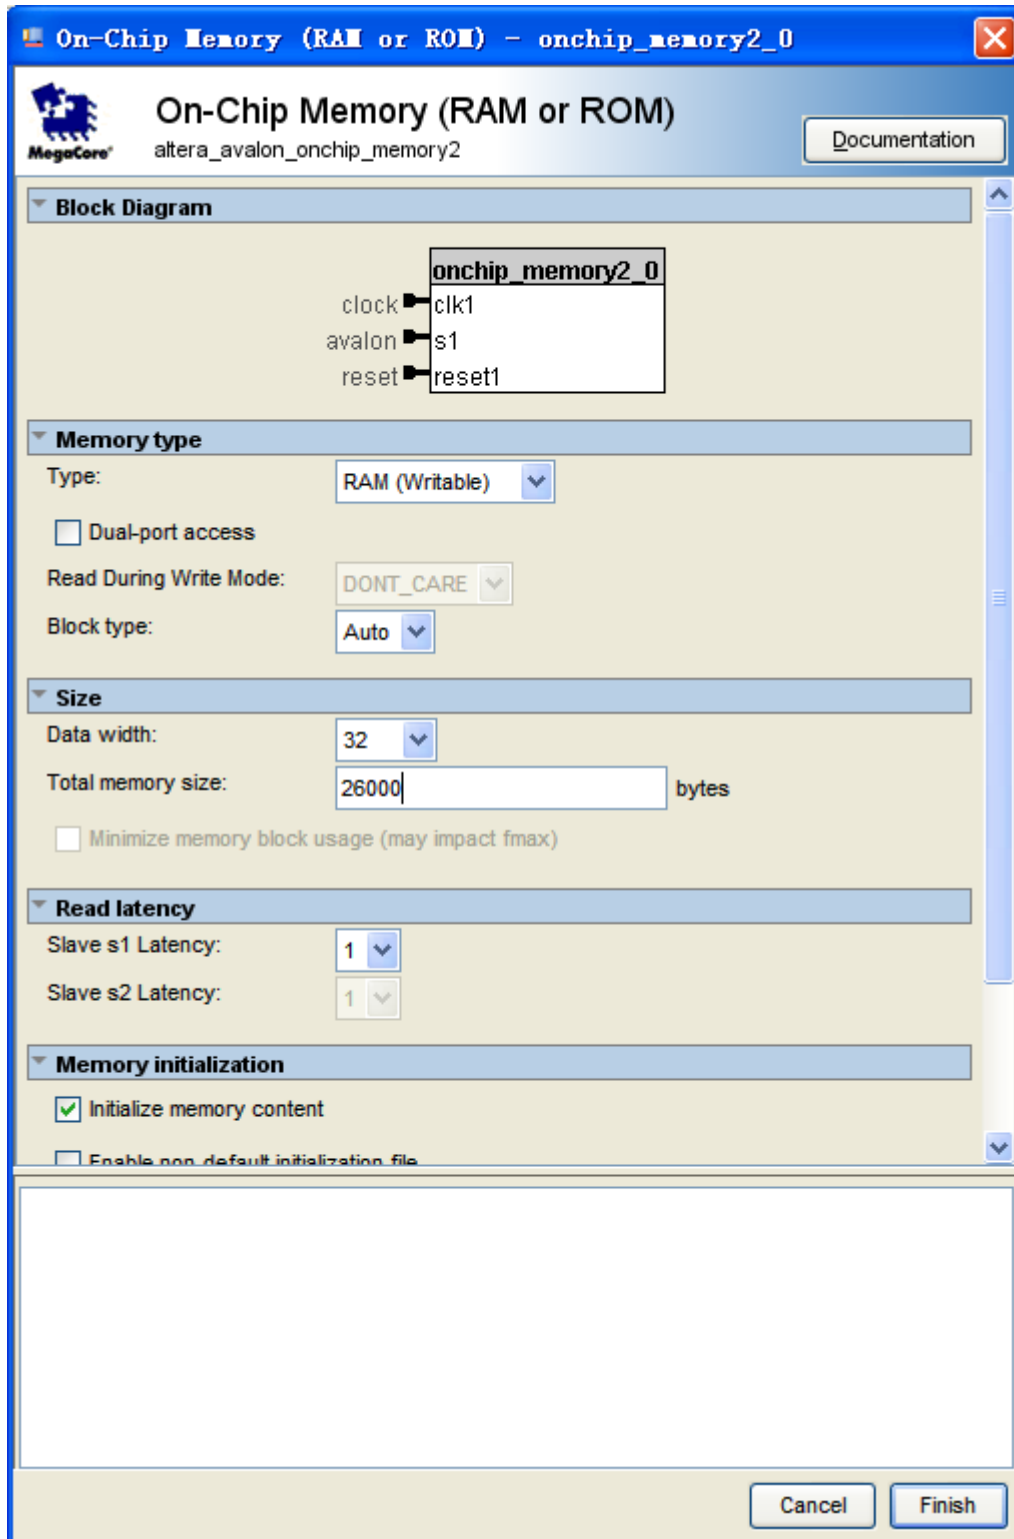
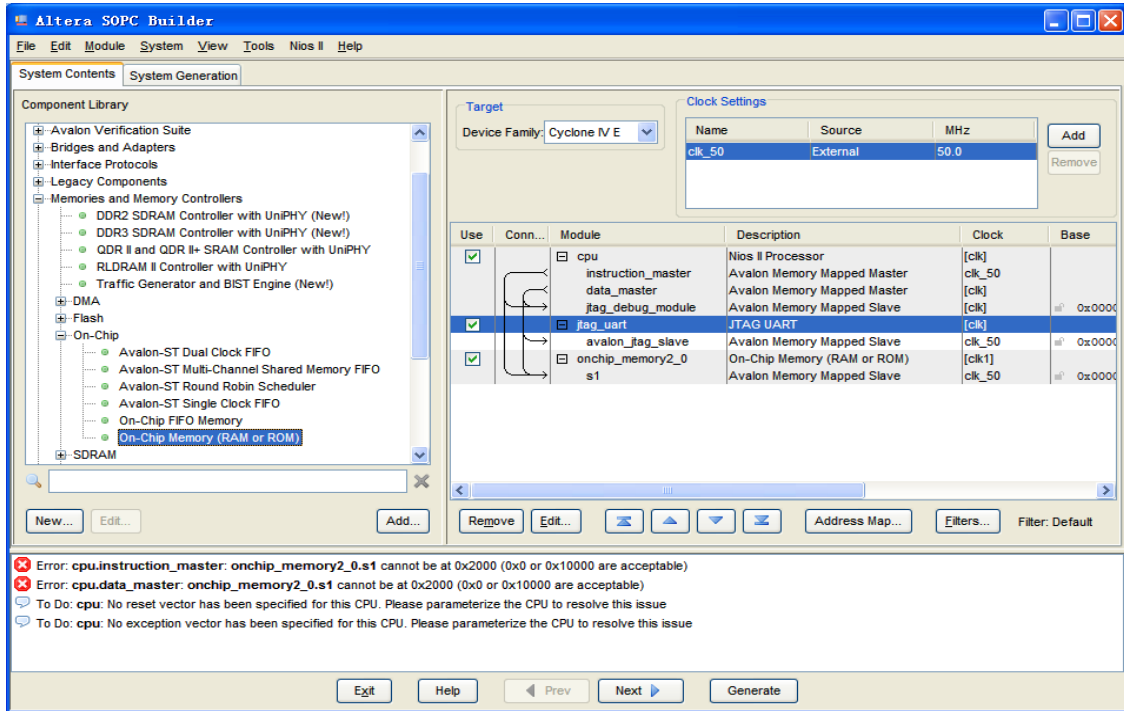

Figure 7-25 Update Total memory size
Figure 7-26 Add On-Chip memory
16. Modify Total memory size setting to **26000** as shown in **Figure 7-25**. Click **Finish** to return to the window as in **Figure 7-26**.